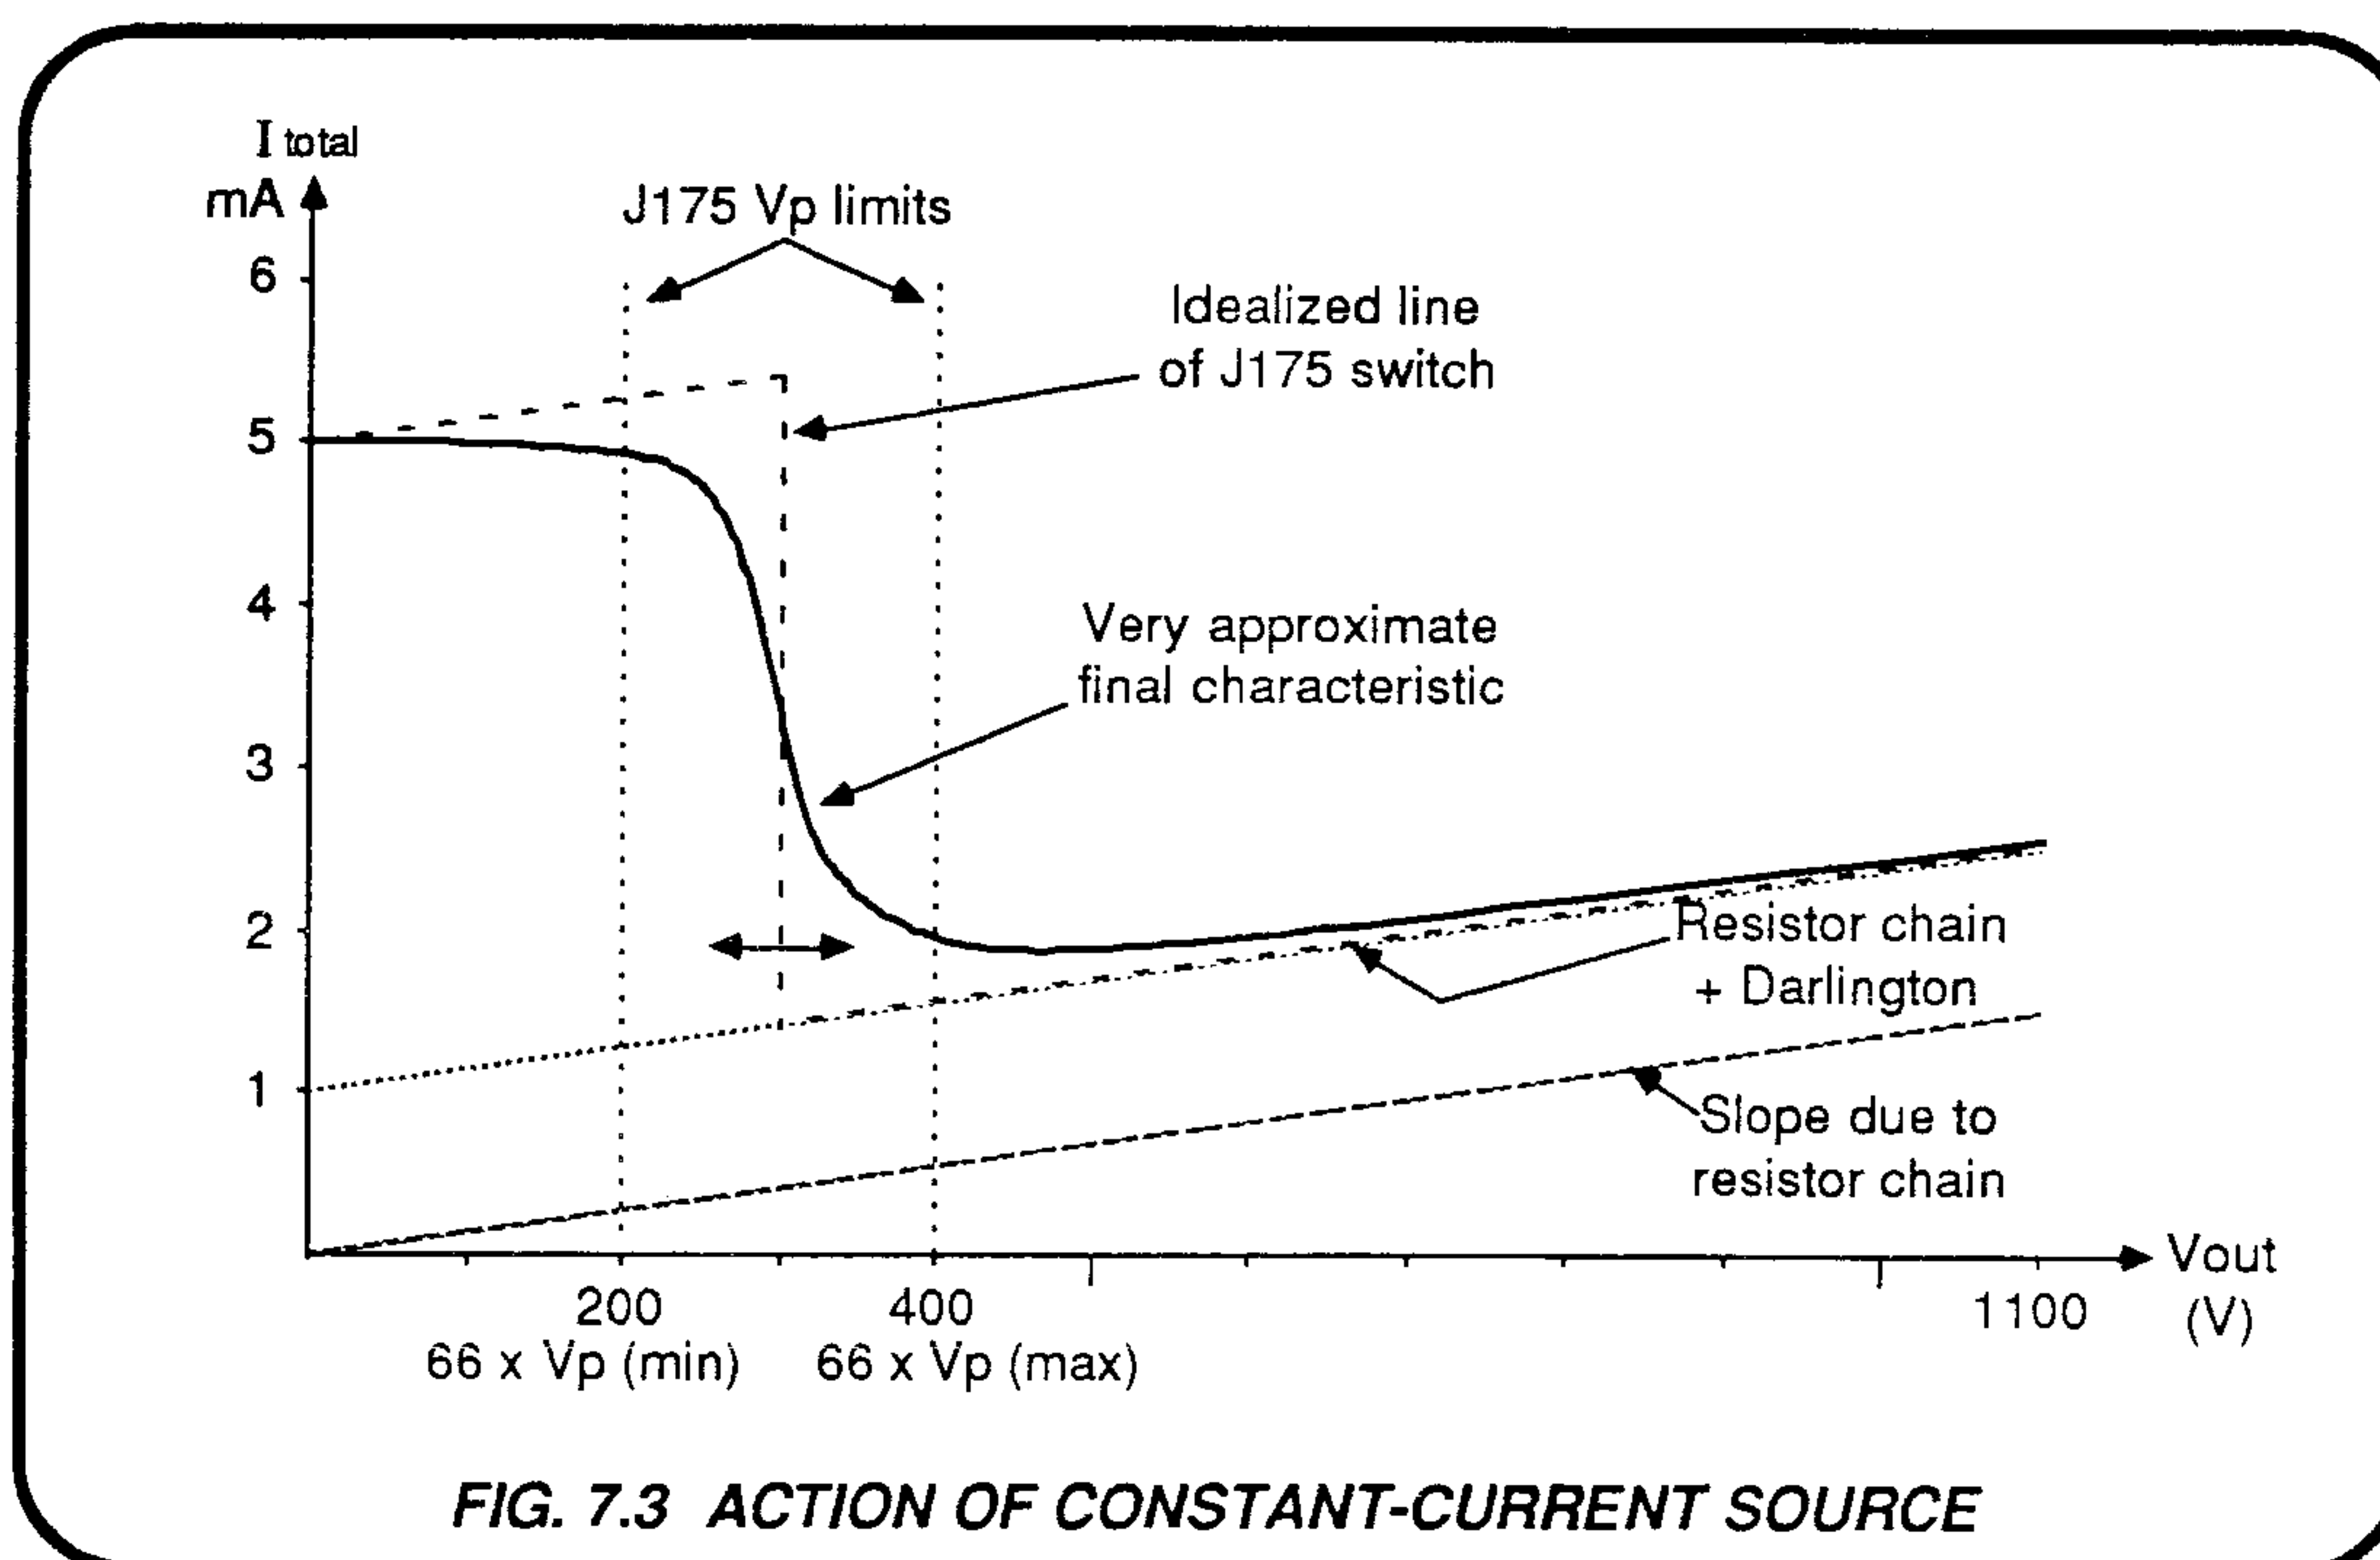

FIG. 7.3 ACTION OF CONSTANT-CURRENT SOURCE
- At higher voltages, D15-D17 limit Q11 base voltage to +2.4V, limiting the series current in R11, with Q13 pinched off. At lower voltages Q13 conducts, shunting R11 with 170-180 Ω (R10 plus Q13 'On' resistance which falls to approx 125 Ω), and increasing the discharge current. The approximate shape of the overall characteristic is shown in *Fig. 7.3*.